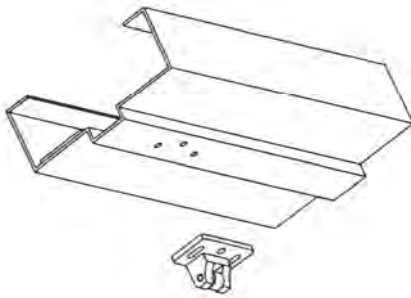
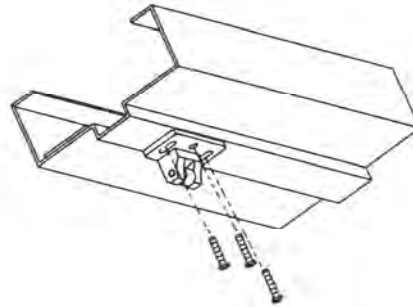

Figure 12
Figure 13
6. Mark mounting holes for top strike on stop face of the top frame as shown by Strike Template (see Figure 12), then fasten with supplied screws (see Figure 13).